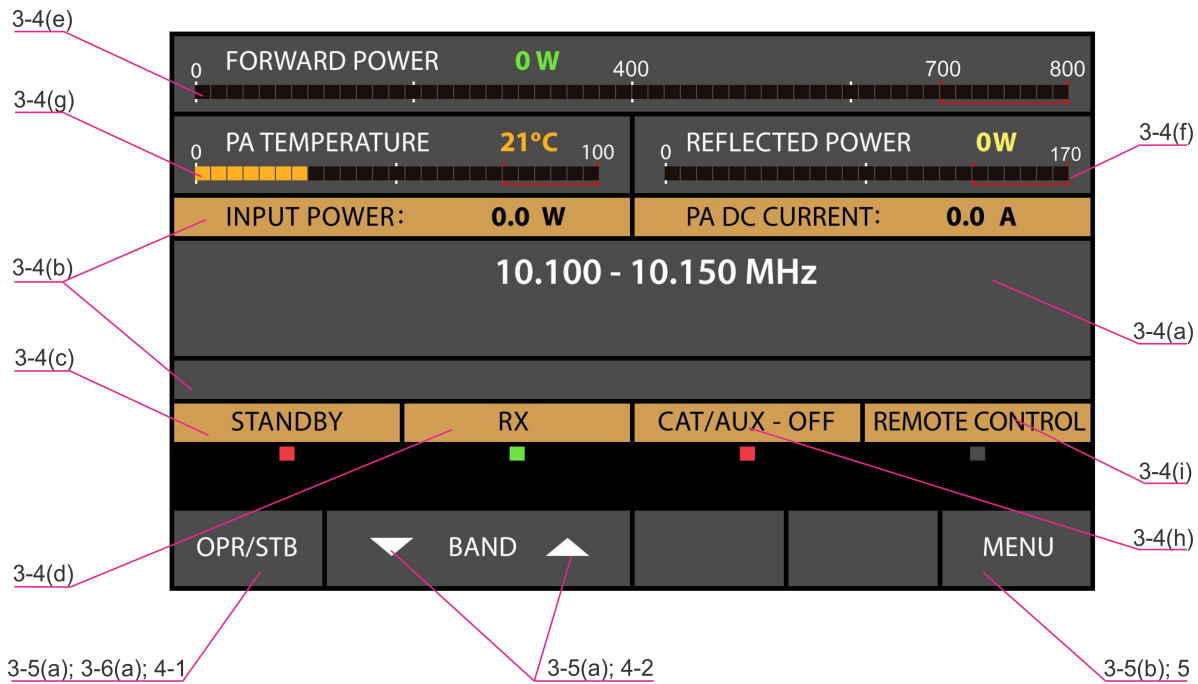

Fig. 3-2 Basic screen
In order to start up the amplifier, push and hold the POWER button on the front panel for one or two seconds- about ten seconds later (boot sequence) the display will flash and show the **basic screen** with the amplifier information - Fig. 3-2.
- a) The OPR/STB and the BAND buttons are used for manual (local) control of the (Fig. 3-2):
- b) The right-most button MENU (Fig. 3-2) provides access to the amplifier's settings and service functions;
Turn the amplifier on, as described in Sections 3-1 to 3-4 (Fig. 3-2).
- either manually (locally) – by pressing the OPR/STB button – see the basic screen in Fig. 3-2, or automatically – when if the AUTO OPERATE option is activated – see S. 5-4(c).